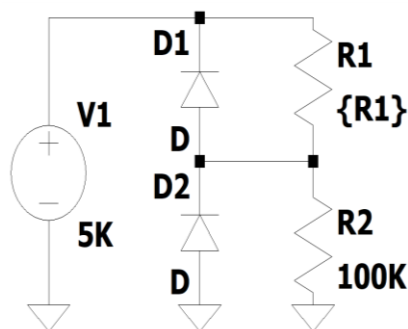

Figure 1.3 Series Revers Bias Diodes
1. Connect the Circuit as shown in Figure 1.3.